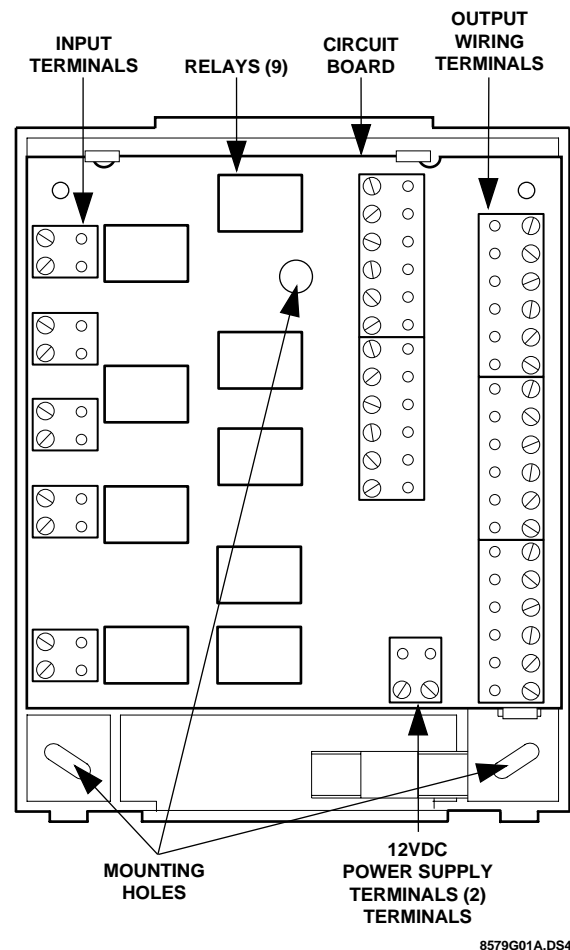

Figure 1. Card Components and Mounting
Figure 1 shows the card's main components.
3. Place the back plate on the wall and mark the mounting holes as shown in figure 1.
3. Place the back plate inside the cabinet at the lower-right corner and mark the mounting holes as shown in figure 1.
The tamper switch holder is located at the lower-right side of the back plate as shown in figure 1. The plastic cover holds the magnet.